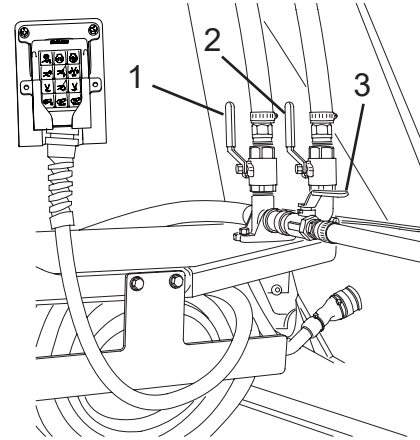

Figure 111
5. Open the upper wash-out valve (Figure 111, Item 1), “Add Water” valve (Figure 111, Item 2), or lower wash-out valve (Figure 111, Item 3) to activate the desired function.